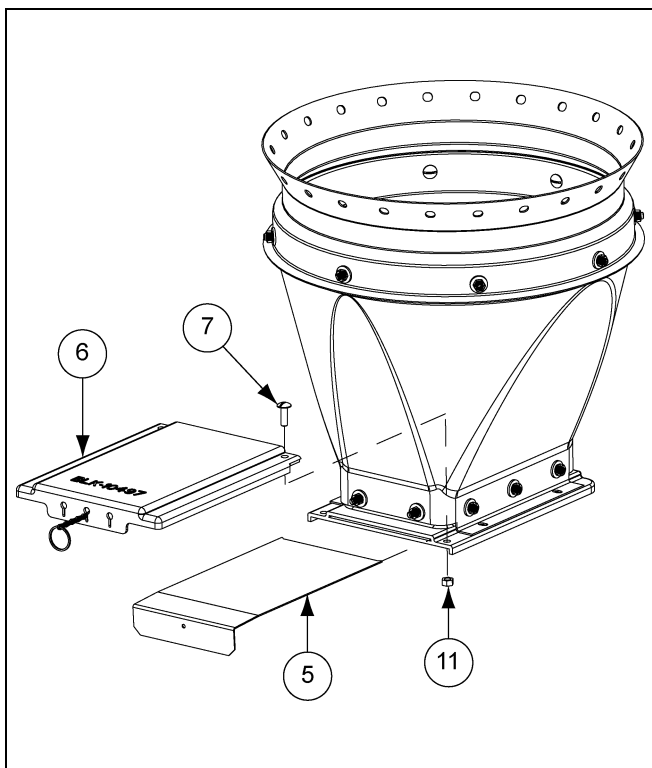

Figure 5
Insert the slide into the transfer plate. The slide must be in its operating position prior to attaching the slide shield to the transfer plate. Use two (2) 5/16"-18 x 1" truss head tap bolts to mount the slide shield. (See Figure 5.)